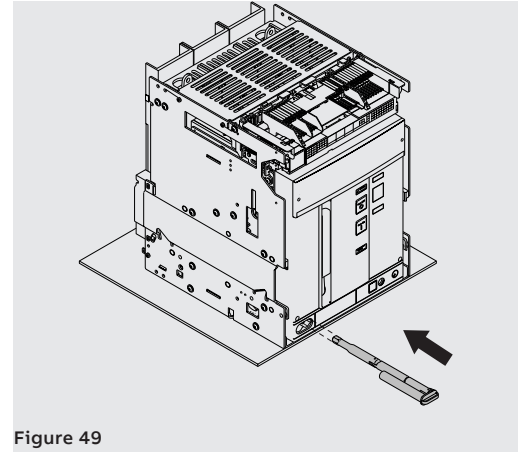

Figure 49
13. Replace the crank in its housing See Figure 49.